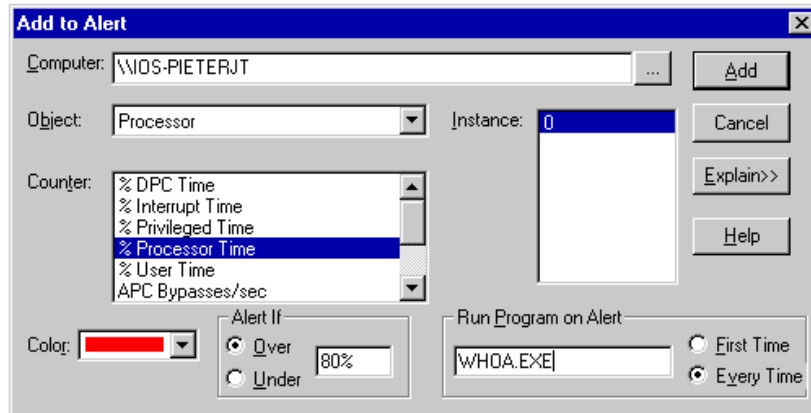

Figure 101. Adding an Alert
To add an object for monitoring in Alert view, click on **Add to Alert** from the Edit pull-down menu, or click on smart icon . You will see a window similar to the one in Figure 101 on page 126.
4. Supply a numeric value in the Alert If field (see Figure 101). This value is the threshold upon which the alert will be generated when the object measured reaches it.
5. You can supply an optional program or batch file name in the Run Program on Alert field (see Figure 101). This program or batch file will be triggered once the threshold value is reached.